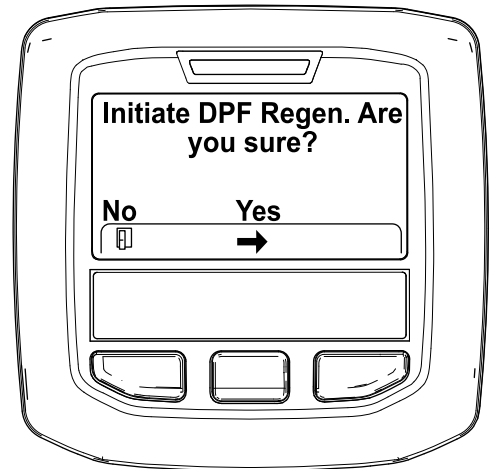

Figure 26
4. When the "Initiate DPF Regen. Are you sure?" message displays, press the center button (Figure 26).